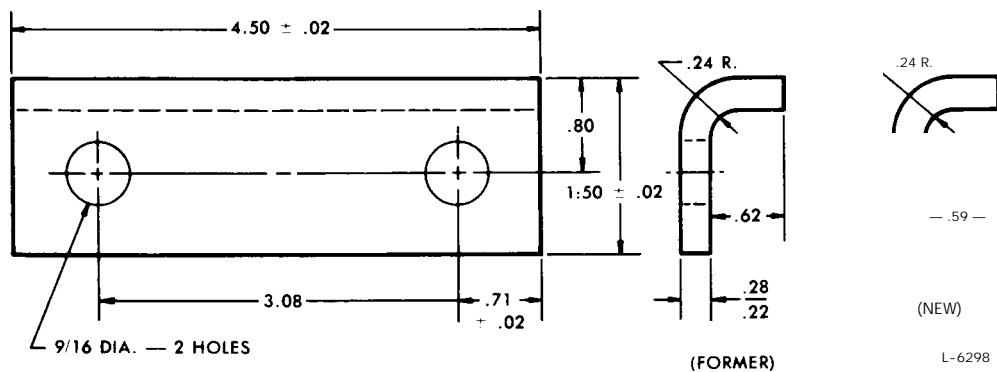

Fig. 5 - Former and Current End Clamps Used on One-Piece Exhaust Manifold
1. Place a new, all-metal gasket over the studs (Fig. 4). When the current all-metal gasket is used, all studs will be the same length. Omit the beveled washer on the end studs when the new end clamp (Fig. 5) is used.
4. Install the special washers so that the outer diameter will rest on the manifold and the crown is toward the nut. Then, install the two end clamps and attaching nuts on the studs. When an all-metal gasket is used on a 16V engine equipped with a one-piece exhaust manifold, use new end clamps or former clamps that have been reworked (Fig. 5).